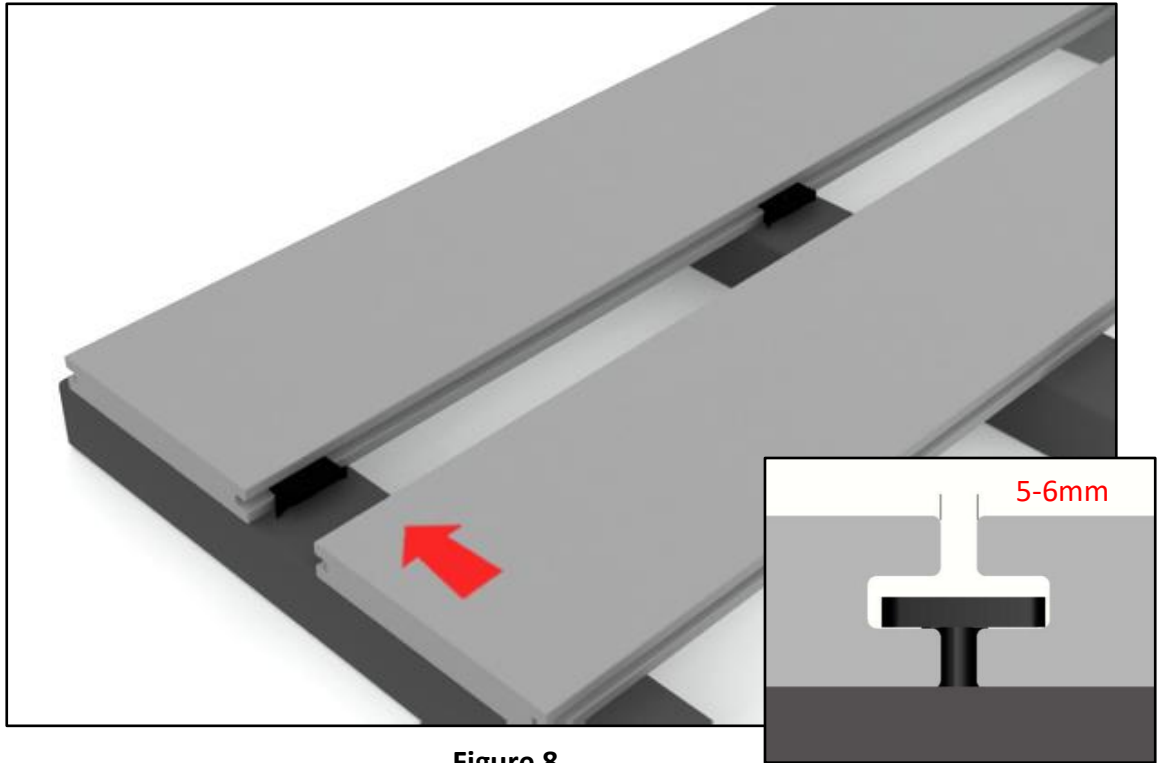

Figure 8
- 5 Push the next decking into the clip, meanwhile; beat the decking slightly into the clips to make sure the distance between the decking is the same. At last, screw the half into screws slightly to fix the decking. The distance between decking is 5-6mm, as show in figure 8.